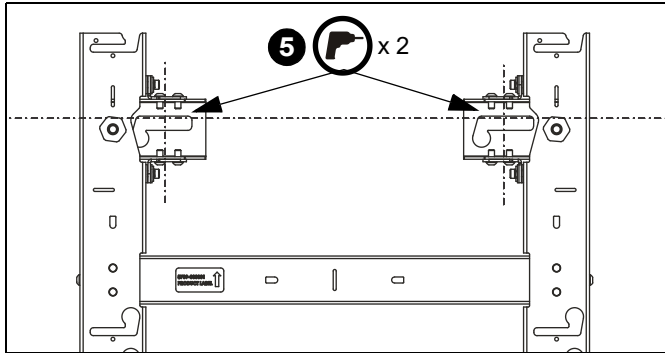

Figure 15
5. Drill pilot holes towards top and in centerline of upper mounting slots on second mount (see Table 1 for size) and follow fastener information (appropriate for wall type) located in Table 1. (See Figure 15)